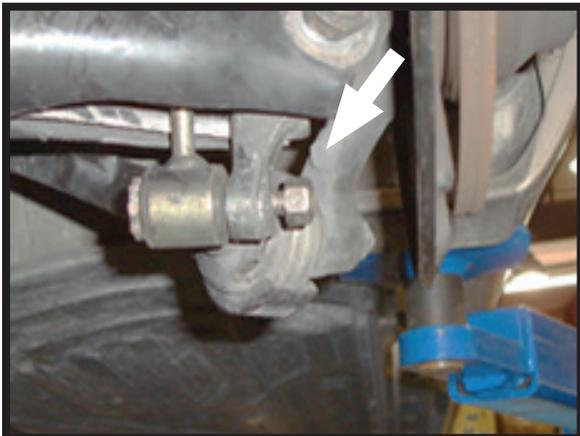

FIGURE 12
12. DISASSEMBLE THE STABILIZER BAR LINK. (FIGURES 12, 13)